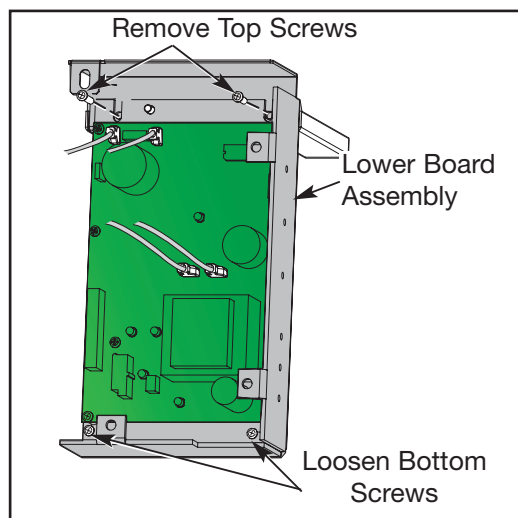

Figure 11
**D.** Using a Phillips head screwdriver, remove the top two screws from the lower board assembly and loosen the bottom two screws. See Figure 11.